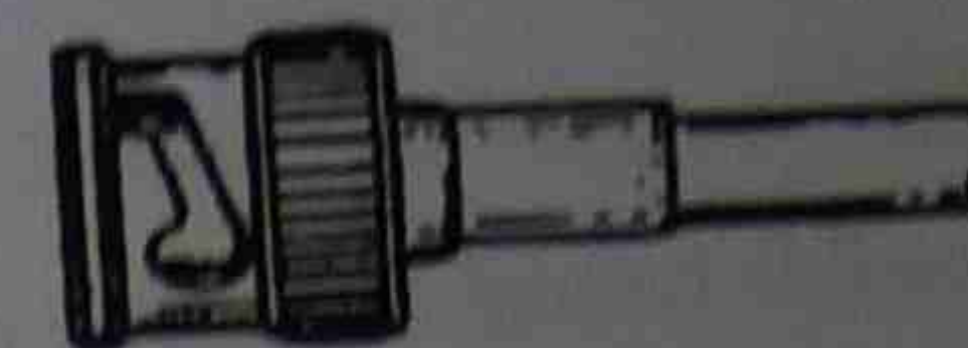

Figure 78 Finishing plug assembly
5. Slide the ferrule over the braid and support sleeve, insert the connector into the crimper and crimp the ferrule down as shown in Figure 78.